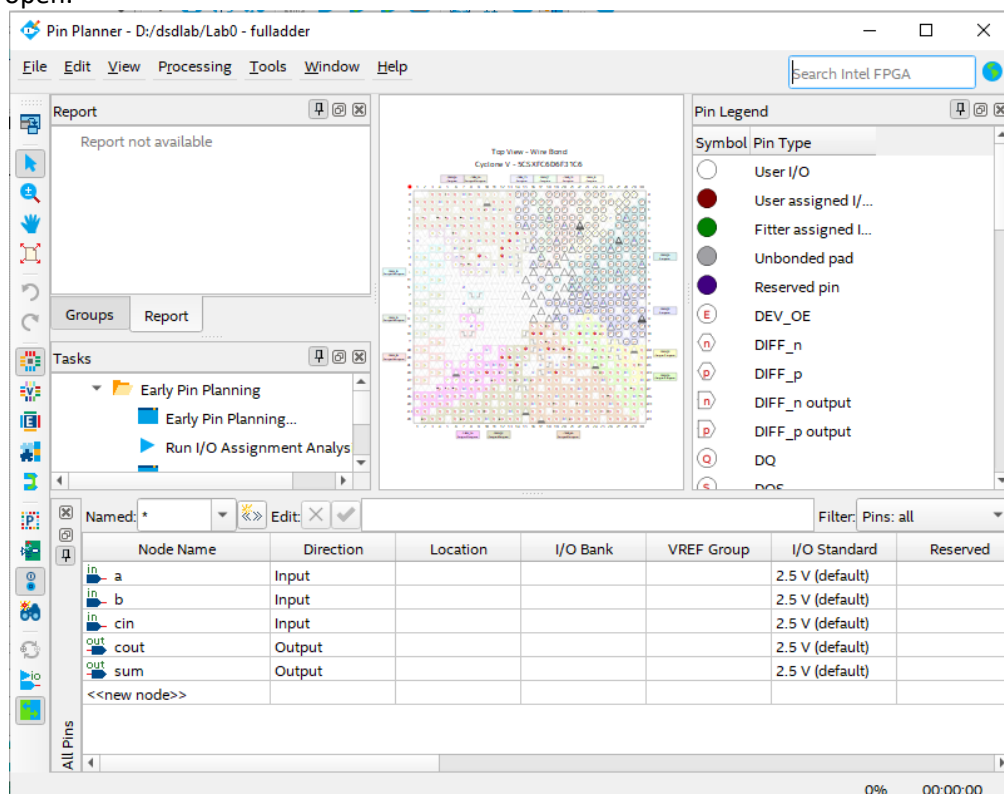

Fig. 1.7 Pin Planner
- Using the main toolbar at the top of the Quartus window, navigate to the **Assignments** dropdown menu. Click on **Pin Planner** and a window similar to the image in Fig 1.7 should open.